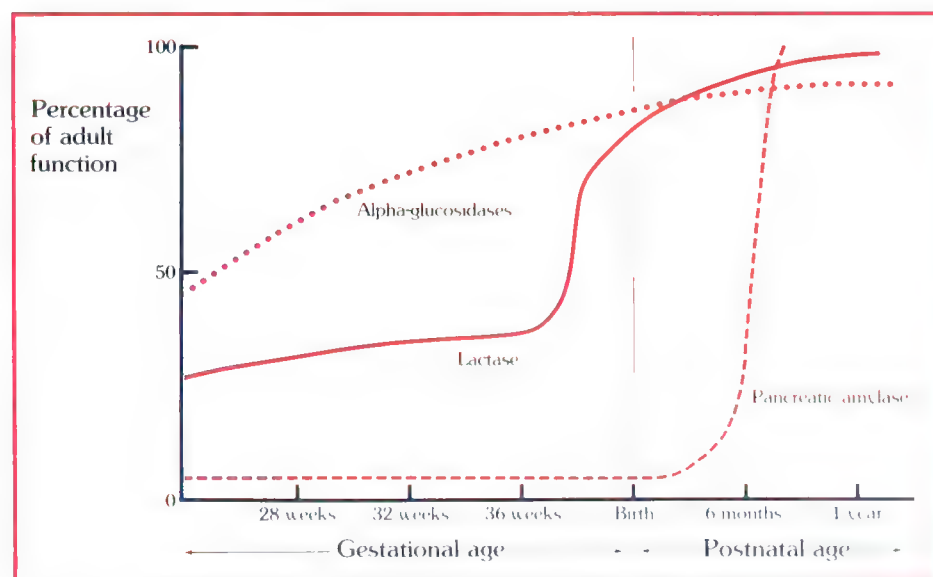

Fig. 2. Development of gastrointestinal enzymes in infants. Before enzymatic activity has matured, infants have difficulty digesting certain foods.
At present we are testing a theory that may explain how prostaglandins turn the activity of the watching macrophages on and off and if it can be influenced by dietary fatty acids (Fig. 2). We have already found that we can control prostaglandin production in the macrophages of experimental animals. We are now examining how production affects the ability of macrophages to respond to invading antigens.
Fig. 2. The macrophage and what it does. Antigens in the bloodstream are collected and processed by lymph organs such as the spleen (1). These organs have an architecture that is ideal for processing many different antigens and quickly presenting them to B and T lymphocytes. Processing involves cells called phagocytes (phago = eating; cyte = cell). In lymph tissue, large phagocytes called macrophages contact lymphocytes and present the antigens (2). Control of the start of an immune response is not understood, but according to a theory now being tested (3), an antigen approaches the spleen, attaches to a macrophage, and is presented to a B cell. The response may or may not start, depending on the relative levels of cyclic nucleotides in the B cells. Cyclic (c) nucleotides are compounds that control cell division. If the compound cGMP is high (↑) relative to cAMP, the B cells divide, producing antibodies. Control of this process may be achieved by prostaglandins produced by the macrophage. Prostaglandin E (PGE) starts the response, and prostaglandin F (PGF) elevates the level of cGMP, thus increasing the response.
Swallowing is present by 18 weeks and sucking by 28 to 30 weeks of gestation. However, the sphincter (valve) that closes the lower part of the esophagus may not function adequately until one year after birth. Digestive function matures from mid-gestation to one year. The ability of an infant to digest and utilize dietary nutrients parallels these developmental patterns (Fig. 2).
Chylomicrons carry triglycerides derived from the diet. VLDL carries triglycerides synthesized by the liver from carbohydrate and circulating fatty acids. The triglycerides of both chylomicrons and VLDL, after being transported to adipose (fat) tissue, heart, muscle, and other tissues, are hydrolyzed (split) by an enzyme called lipoprotein lipase, located on the blood capillaries at the tissue site. The fatty acids that are thus released are taken up by these tissues and are used as an energy source and as building materials for complex lipids. Any excess fatty acids are stored, primarily in adipose tissues, in the form of triglycerides. The continual removal of the triglyceride constituent from the core makes chylomicrons and VLDL progressively smaller. The resulting chylomicron remnants are disposed of principally by the liver (Fig. 2).
VLDL has a different fate. The removal of most of its triglycerides results in the formation of low density lipoprotein (LDL) (Fig. 2). This lipoprotein contains the highest levels of cholesterol and its esters (Table 1) and is transported to many tissues. Upon reaching the tissue site, specific receptors present on the plasma membranes of the cells recognize, take up, and degrade the LDL particles. The cholesterol component of LDL is primarily used as a structural element of cell membranes.
Fig. 2 Schematic representation of the changes in size or shape of various lipoprotein particles during lipid transport processes. LPL = lipoprotein lipase; LCAT = lecithin-cholesterol acyltransferase.
ally becomes spherical (Fig. 2). A portion of the cholesterol esters produced by the enzymatic reaction is transferred from HDL to VLDL and LDL.